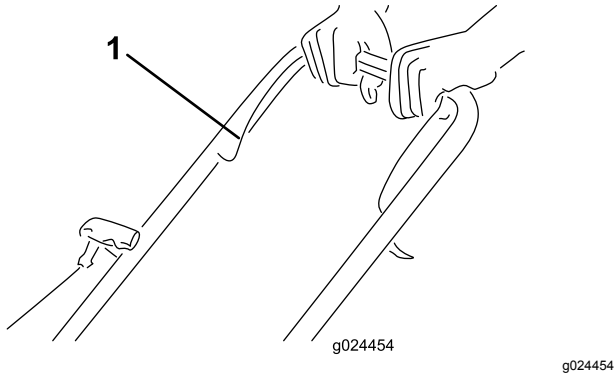

Figure 14
1. Pull the blade-control bar to the handle and hold it (Figure 14).